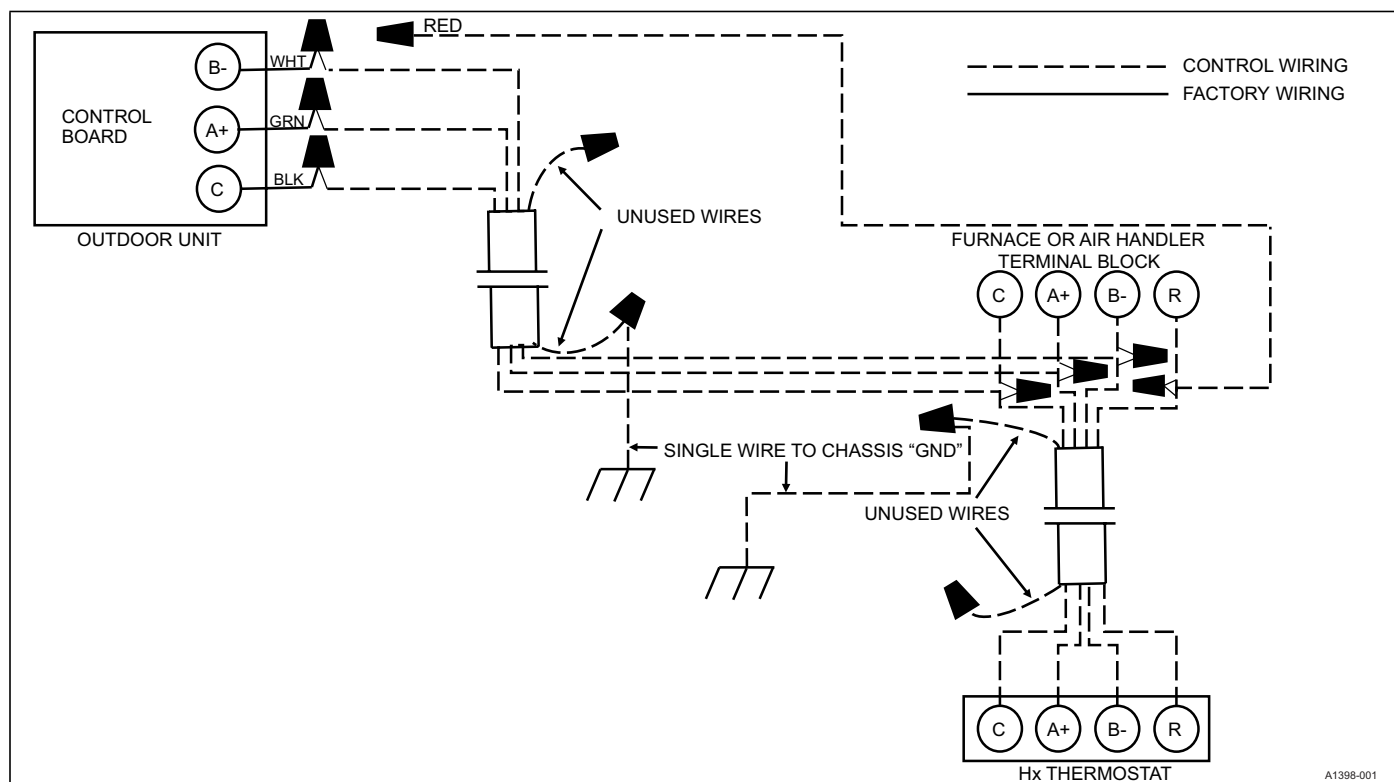

FIGURE 7: Typical Communicating Field Wiring (Air Handler / Furnace)
The complete connection diagram and schematic wiring label is located on the inside surface of the unit service access panel. An example of typical field connections can be found in Figure 7.
If the installation contains excess conductors greater than 3-4 wires (communication equipment dependent), the excess wires should be grounded to reduce electrical noise. Use a wire nut to bundle the excess wires at each end. A single wire should then be connected to "chassis ground" (near the transformer or ground lug) as shown in Figure 7.
Outdoor line voltage input wiring is designated as L1 and L2. Indoor air handling unit line voltage input wiring is designated as L1 and L2. Indoor gas furnace line voltage input wiring is designated as L1 and NEUTRAL. The L1 connection indoors must be the same phase or "leg" of power connected to L1 outdoors. To perform a transformer phasing test, there must be a 24VAC "R" thermostat wire connected to the indoor section and capped off at the outdoor section as shown in Figure 7. DO NOT connect the indoor "R" wire to the outdoor equipment. This wire is for testing purposes only.
1. If indoor equipment is an air handler, confirm the wiring connected to the air handler transformer is as shown in Figure 7. If not, correct as necessary.